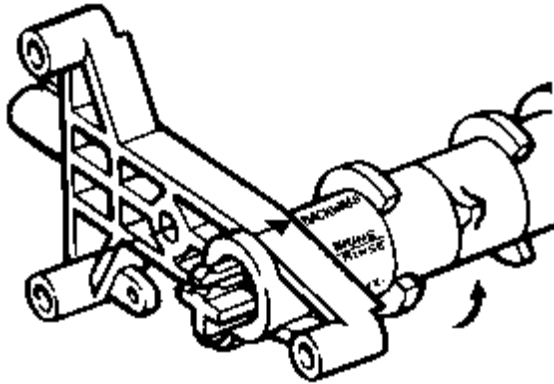

Figure 5
4. Push in on RED KNOB on timer, turn counter-clockwise until arrow on the camshaft/timer support points to the BACK-WASH position indicated on #1 cam (see Figure 5).